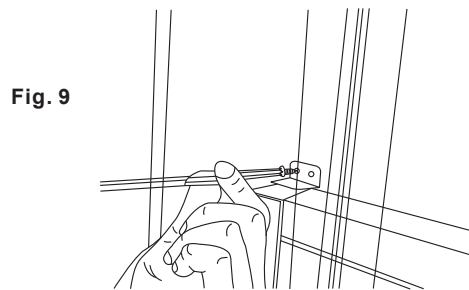

Fig. 9
C. To secure lower sash in place, attach right angle sash lock with 3/4" (19 mm) or 1/2" (12.7 mm) screw as shown (Fig. 9).